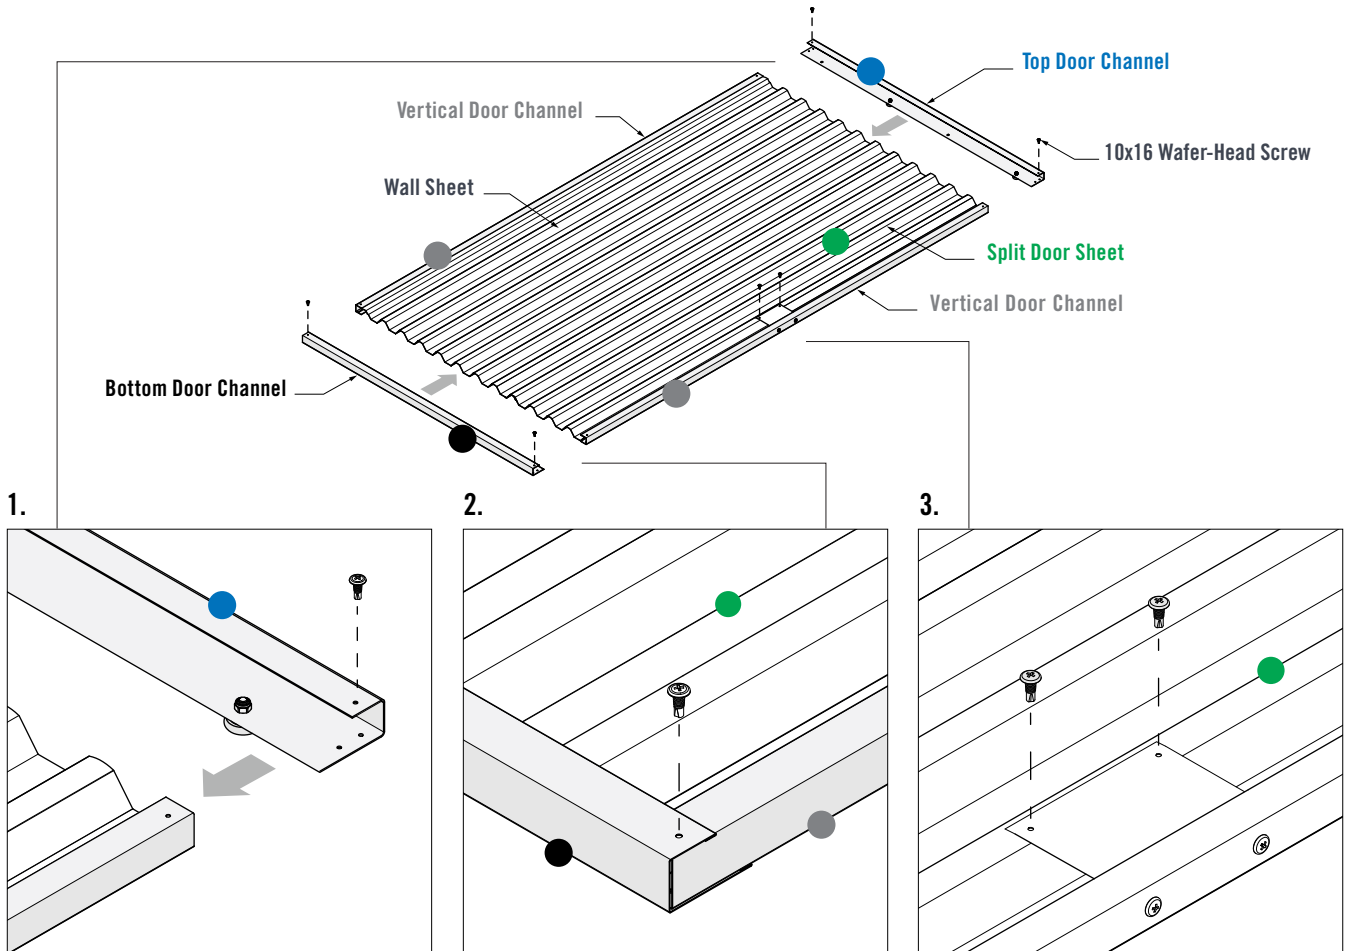

FIGURE 6.5
1. Fit the Vertical Door Channels over the side of the door sheets, then fit the **Top** and **Bottom Door Channels** over the door sheet ends. Ensure the lip of the **Top** and **Bottom Door Channels** fit over the **Vertical Door Channels** (Figure 6.5).
2. Fasten one 10x16 Wafer-Head Screw through the pilot holes in the corner of each **Top** & **Bottom Channel** and into the **Vertical Door Channels** (Figure 6.5).
3. Crest-fix two 10x16 Wafer-Head Screws through the pilot holes in the **Handle Mount** and into the **Split Door Sheet** (Figure 6.5).